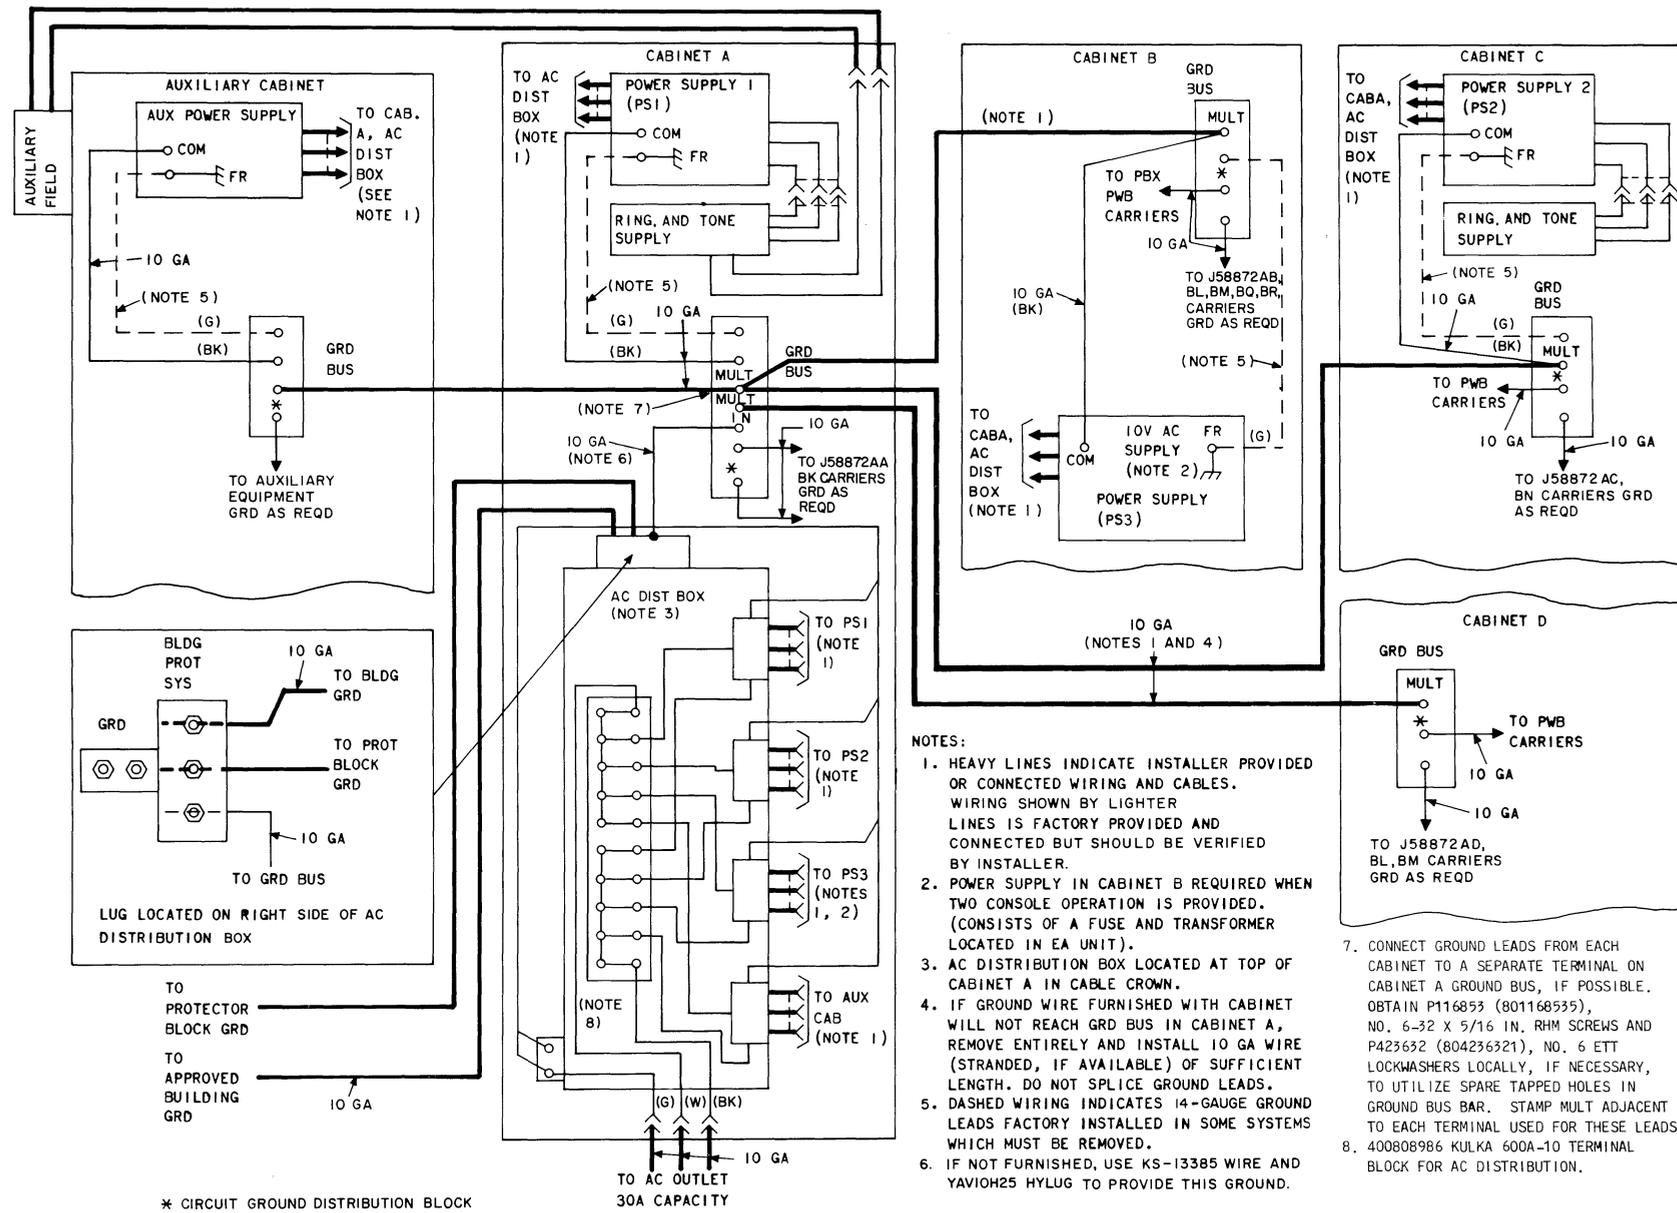

Fig. 4—801A PBX System Grounding Plan
- (1) Inspect cabinets A, B, and C and the auxiliary cabinet for the presence of a factory-placed 10-gauge wire from the frame (FR) ground lug of the power supply to the GRD BUS bar in each cabinet. If any of these wires exist, they must be removed (Fig. 4, Note 5).
- (2) Inspect cabinet A for the presence of a factory-placed ground lead between terminal IN of the GRD BUS bar and the power distribution box. If this lead does not exist, obtain 1 foot of KS-13385 black-stranded wire and one YAV10H25 HYLUG. Connect the HYLUG terminal to the ground wire. Secure the end with HYLUG to the terminal on the GRD BUS bar marked IN and the other end to the bottom terminal of the 32003 TB lug on the power distribution panel (Fig. 4).
- (3) Connect the cabinet B ground wire (coiled on top of cabinet B) to the ground bus bar marked GRD BUS of cabinet A (Fig. 4).
- (4) If cabinets C and/or D are provided, the coiled ground wire from each should be connected to the GRD BUS bar of cabinet A (Fig. 4).